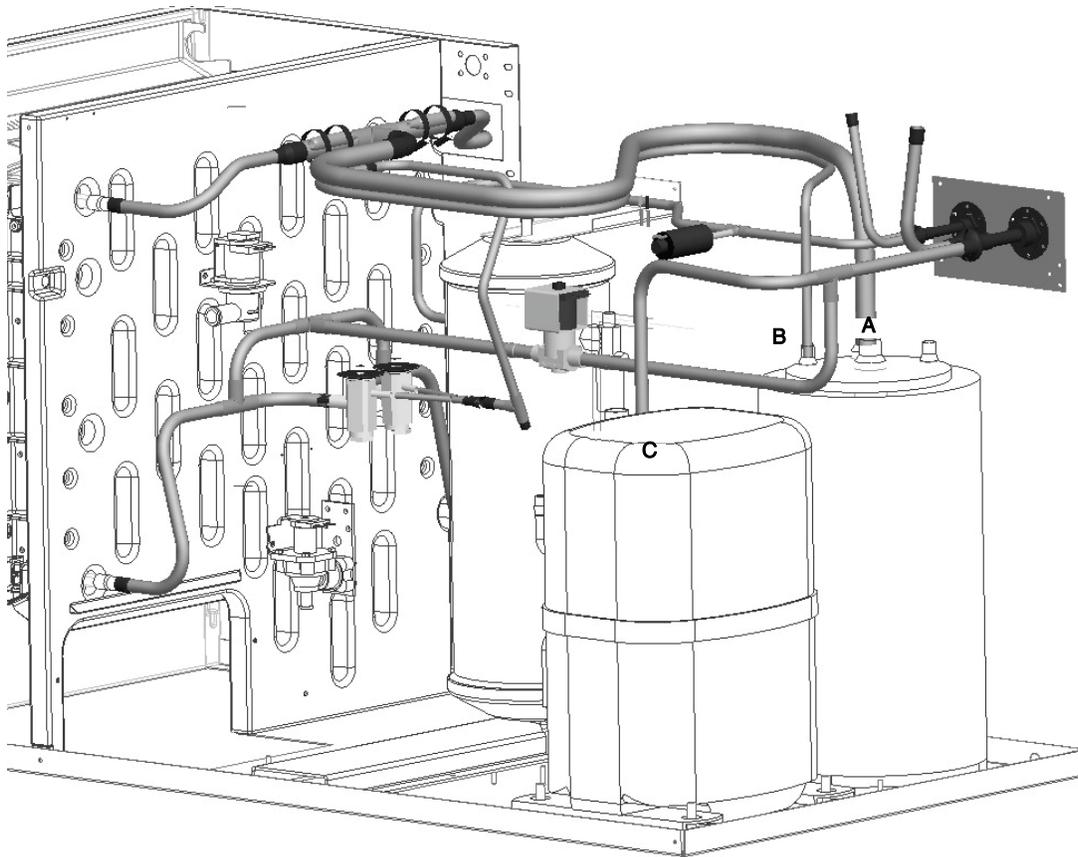

Figure 28.
30. Place the Heat Exchange Suction Line in the unit. This assembly is the largest, and contains the expansion valves and hot gas solenoid (FIGURE 28).